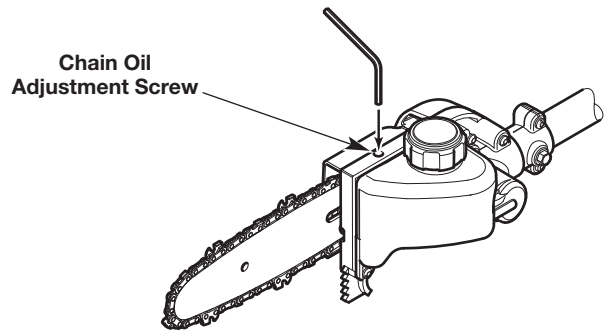

Fig. 20
1. Insert a 3/32-inch Allen wrench into the chain oil adjustment screw (Fig. 20).